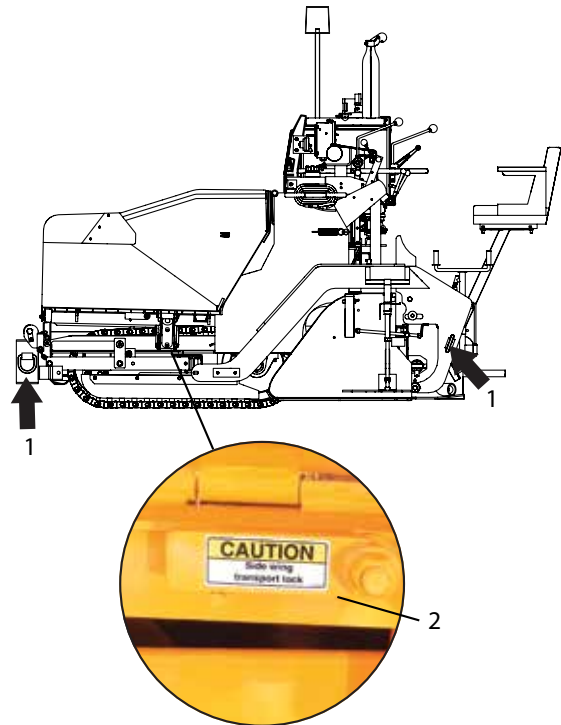

Figure 4-18. Tie Down Points and Transport Lock
2. Attach tie down chains to the hopper end of paver at the D-rings (**Figure 4-18,1**).
3. Attach tie down chains to paver at the D-rings on screed arms (**Figure 4-18,1**).
4. Engage side wing transport locks (**Figure 4-18,2**).